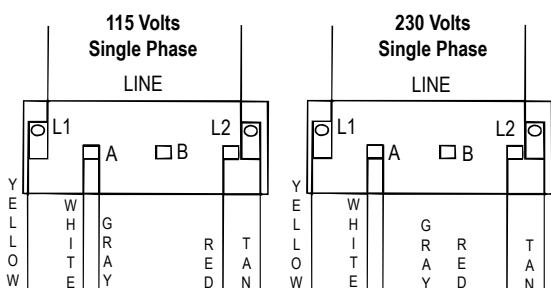

Figure 3.
**WARNING** Use wire size specified in wiring Chart A. If possible, connect pump to a separate branch circuit with no other appliances on it. If wiring diagram on motor model plate differs from diagram shown in figure 3, follow diagram on motor.
2. To change voltage, remove the rear access cover, which is held in place with two (2) screws. For proper electrical connection, refer to the connection diagram located on the motor nameplate or Figure 3.